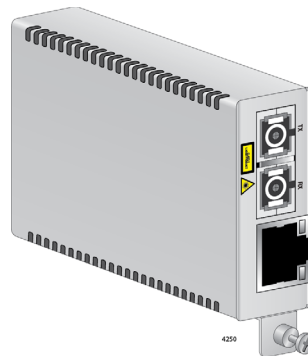

Figure 16. Media Converter on the Sliding Carrier
3. Turn over the media converter as shown in Figure 16.